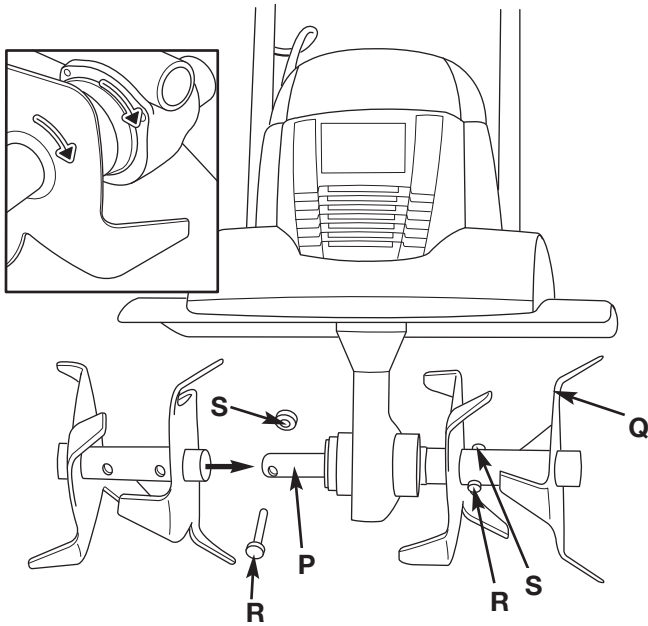

Figure 8
2. Unscrew the hex bolt (R) (See Fig. 8) and the self-locking (S) (See Fig. 8).
3. Remove the tine wheels off the driveshaft (P) (See Fig. 8).
4. Clean the driveshaft (P) with biodegradable oil.